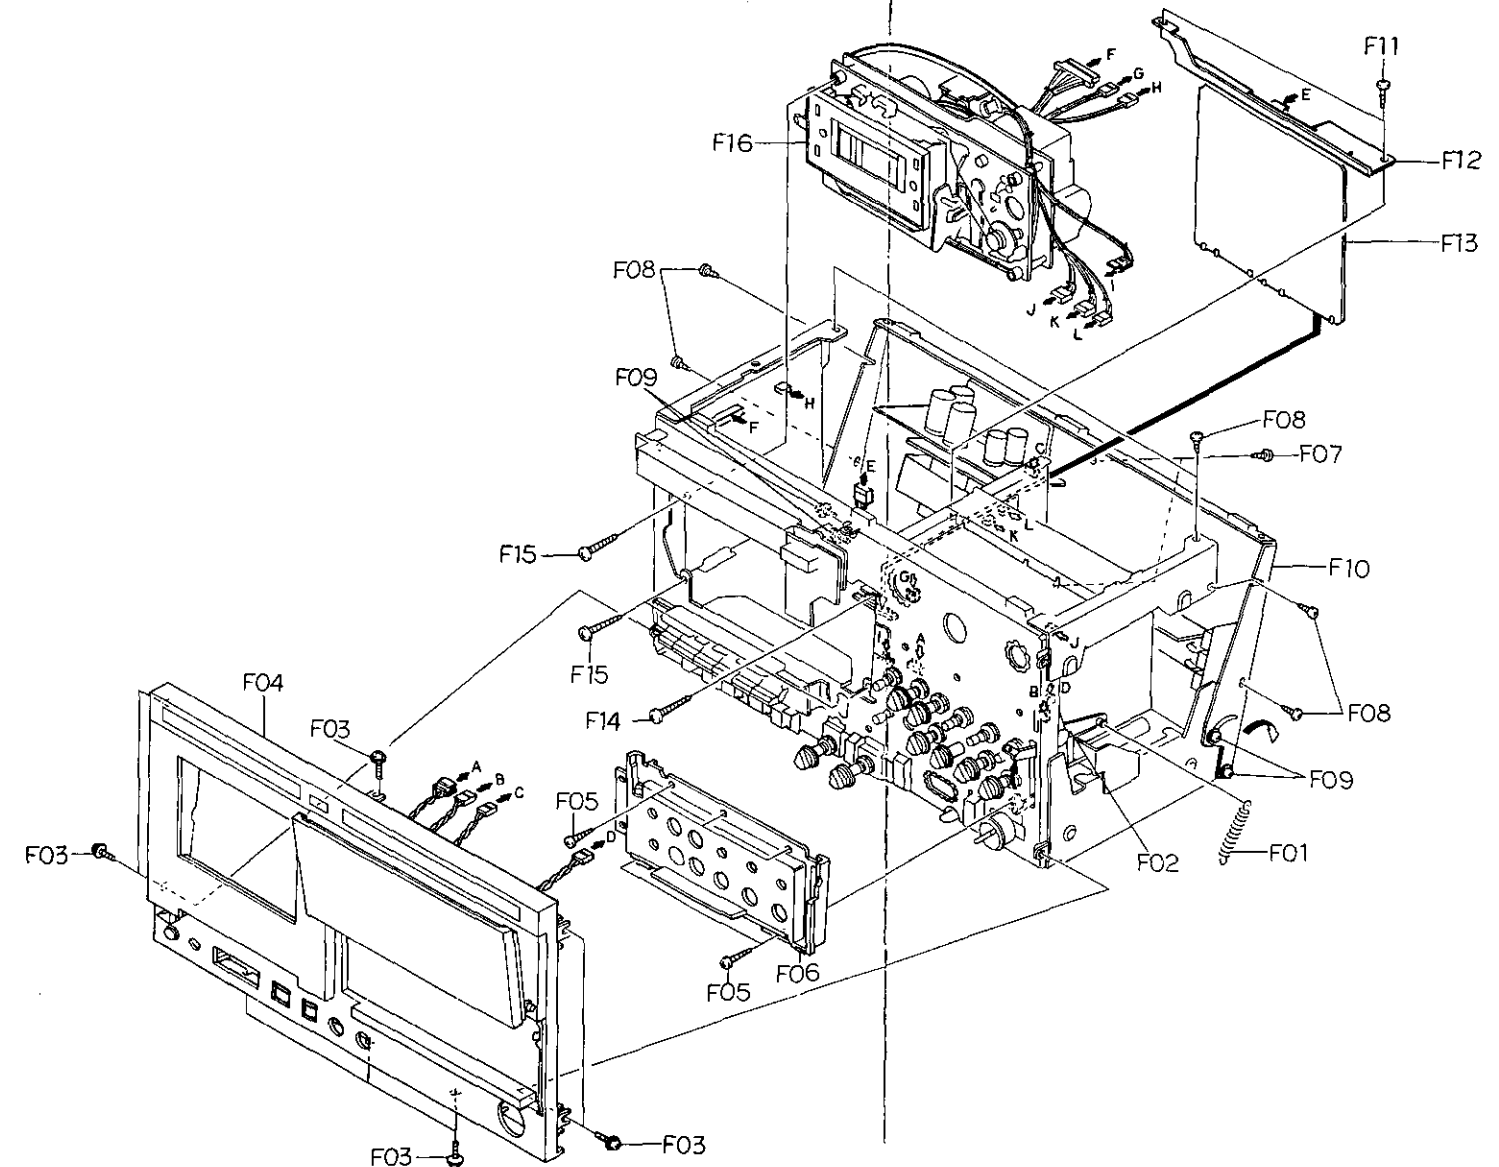

Fig. 2.2
Refer to Fig. 2.2.
- (1) Refer to Fig. 2.2. Remove Front Panel Ass'y referring to item 2.5.
- (2) Remove F01, then disassemble F02 (Counter P.C.B. Ass'y).
- (3) Remove F03, then disassemble F04 (Lighting House Ass'y including 5 connectors).
- (4) Remove F05, then disassemble F06 (Lamp A P.C.B. Ass'y).
- (5) Remove F07, then disassemble F08 (Lamp S P.C.B. Ass'y).
- (6) Remove F09 and F10, then disassemble F11 (Lamp E P.C.B. Ass'y).
- (2) Remove F12 and F13, then disassemble F14 (Control Button Ass'y including 3 connectors).
- (3) Remove F15, then disassemble F16 (Control Switch Lamp P.C.B. Ass'y).
- (4) Remove F17, then disassemble F18 (Control Switch P.C.B. Ass'y).
- (2) Remove F19 and F20, then disassemble F21 (Push Button A Ass'y including 2 connectors).
- (3) Remove F22 and F23 (Button Shaft A), then disassemble F24 (Push Button A), F25 (Button Sleeve B), F26 and F27 (Button Sleeve A).
- (4) Remove F28, then disassemble F29 (RAMM Switch P.C.B. Ass'y) and F30 (Counter Reset P.C.B. Ass'y).
- (2) Remove F31, then disassemble F32 (Power Switch Ass'y).
- (3) Remove F33 and F34, then disassemble F35 (Headphone Jack Ass'y).
- (4) Remove F36, then disassemble F37 (Volume Knob R Ass'y), F38 (Volume Knob L Ass'y), F39, F40 and F41 (Line Input Volume).
- (2) Remove Bias Oscillator P.C.B. Ass'y and Playback Amp. & Dolby NR P.C.B. Ass'y referring to item 2.13.
- (3) Remove F05 and F06, then loosen F07.
- (4) Turn over Rear Panel Ass'y as an arrow head.
- (5) Disconnect F10 (MIC Amp. & Detector P.C.B. Ass'y) from F16 (MIC B P.C.B. Ass'y).
- (6) Remove F11, then disassemble F12 (Control Panel Ass'y).
- (7) Remove F13 (Switch Knob), F14 and F15, then disassemble F16 (MIC B P.C.B. Ass'y).
- (8) Remove F17, F18 and F19, then disassemble F20 (Monitor Switch P.C.B. Ass'y).
- (9) Remove F21 (Switch Knob), F22 and F23, then disassemble F24 (Tape Selector Switch).
- (10) Remove F25, F26, F27 and F28.
- (11) Remove F24, F29, F30 (P.C.B. Stopper), F31 and F32, then disassemble F33 (Main P.C.B. Ass'y).
- (2) Remove Auto Cal. P.C.B. Ass'y referring to item 2.7.
- (4) Turn over Rear Panel Ass'y as an arrow mark.
- (5) Remove F34, F35 (P.C.B. Stopper) and F36, then disassemble F37 (RAMM & Auto Azimuth P.C.B. Ass'y).
- (2) Remove F01, then disassemble F02 (LED Level Indicator Ass'y).